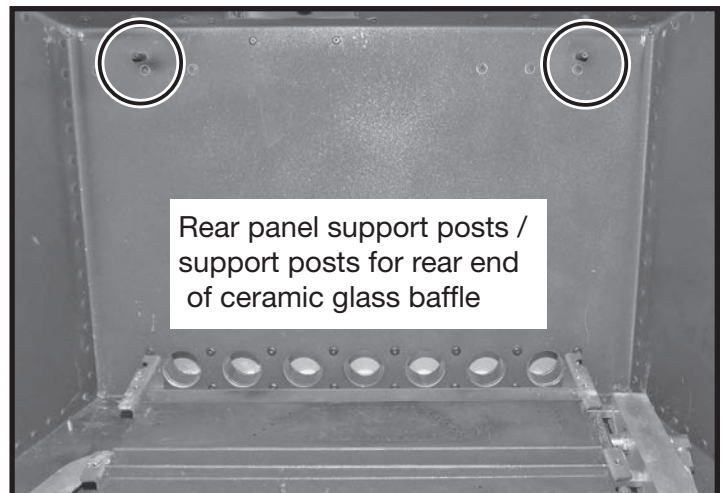

Figure 25: Rear wall showing panel support posts.
1. With the above mentioned support bracket and bolts removed, hang the rear panel onto the posts protruding from the rear wall (Figure 25 and Figure 26).